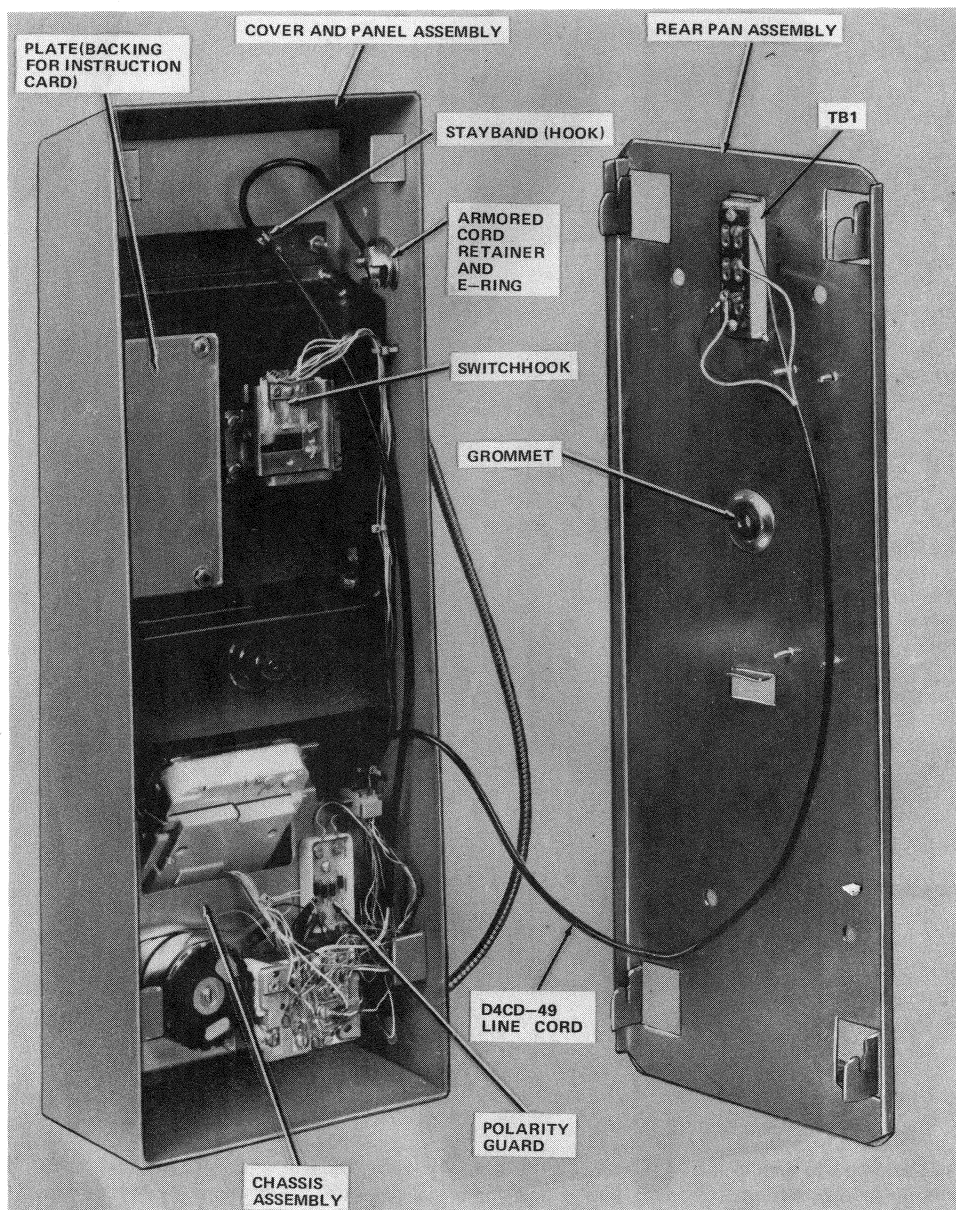

Fig. 4—10A Coinless Telephone Set With Rear Pan Assembly Removed
2.02 Each set consists of a rear pan assembly and a front cover assembly (Fig. 4). These two assemblies are connected electrically by a 2-foot long D4CD-49 line cord.
- 3.02** Run inside wire through grommet (Fig. 4) and terminate on TB1 per Fig. 17. Be sure that bonding and grounding practices are followed as described in Sections 460-100-400, 506-100-100, and 508-100-100.
- (1) Remove four No. 8-32 hex nuts and remove plate from instruction card opening (Fig. 4).
- (2) Insert instruction card (procured locally) into the opening and secure with the plate and four No. 8-32 hex units removed in Step (1).